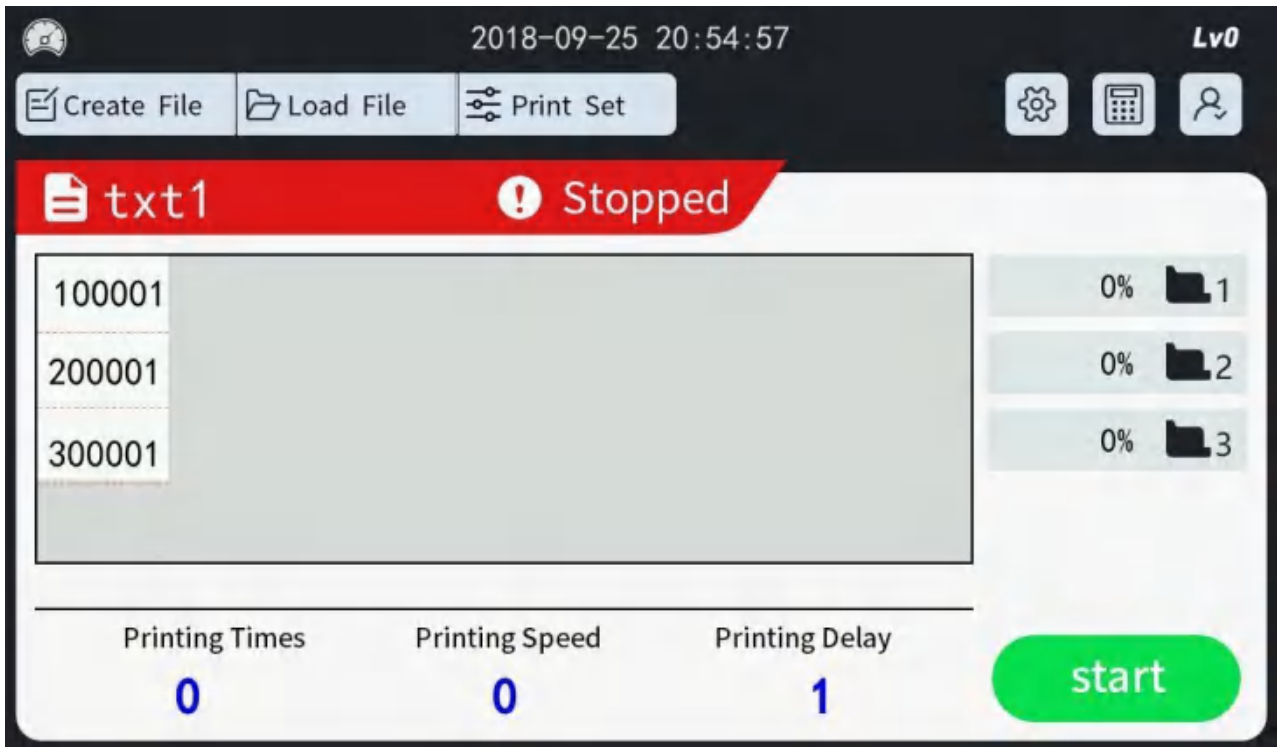

Figure 7-5
5. Clicking the "Print" button, the system will enter the file save interface; entering the file name "txt1" and clicking "Save", then the system will return to the main interface and load the "txt1" file. As shown in Figure 7-5.